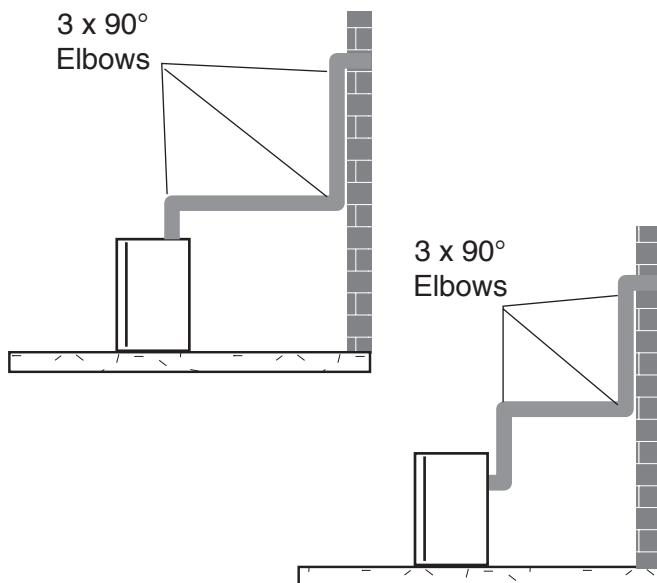
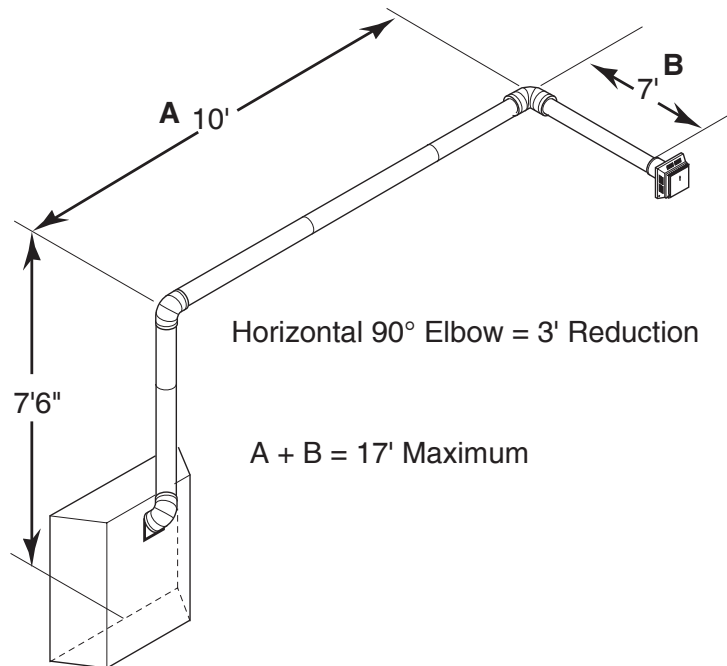

Figure 21 - Maximum Three (3) 90° Elbows Per Installation
Figure 24 - Maximum Vent Run with Elbows
- The maximum number of 90° elbows per side wall installation is three (3). *See Figure 21.*
- If a 90° elbow is used in the horizontal vent run (level height maintained) the horizontal vent length is reduced by 36" (914 mm) (Fig. 21 A and B) This does not apply if the 90° elbows are used to increase or redirect a vertical rise. See Figure 24.